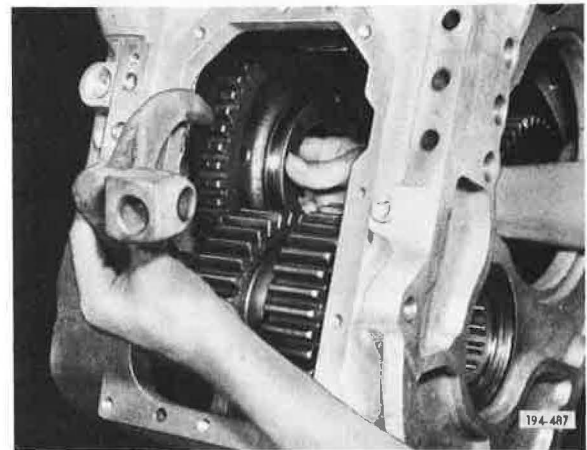

Figure 5-617. Installing Reverse Gear Shifter Fork
6. Engage reverse gear shifter fork in groove provided in reverse speed gear. See Figure 5-617.